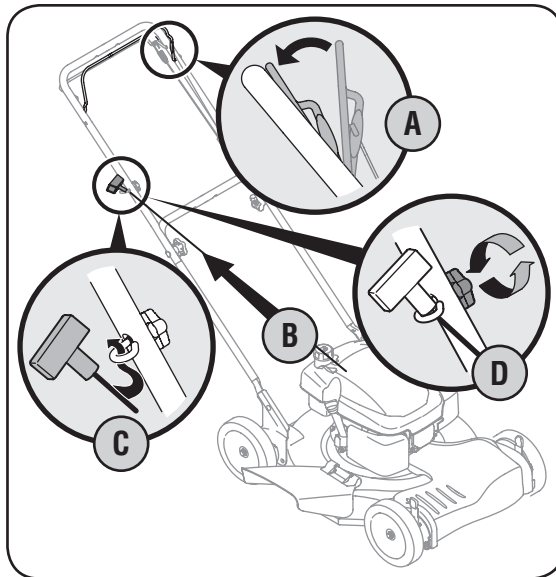

Figure 3-5
5. Rope guide setup as follows, see Figure 3-5: